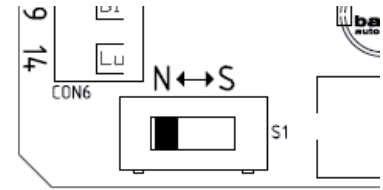
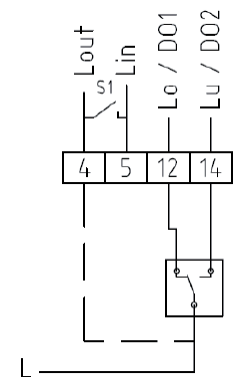

Fig. 6: N↔S-switch
Fig. 7: Wiring diagram 3-point-signal
3. Set the N↔S switch (Fig. 6) to "S" and wire as shown in Fig. 7 (the positioner must remain connected to the power supply throughout).